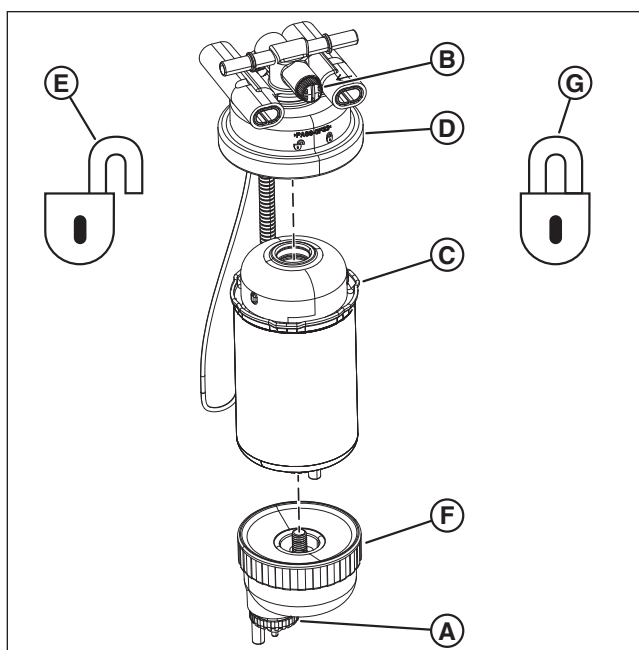

Figure 5. Changing the Filter
2. Open the drain valve (**A**, **Figure 5**) and open the vent screw (**B**) to drain the filter. Close the drain screw and close the vent screw. Use only hand pressure to tighten the drain screw and the vent screw.